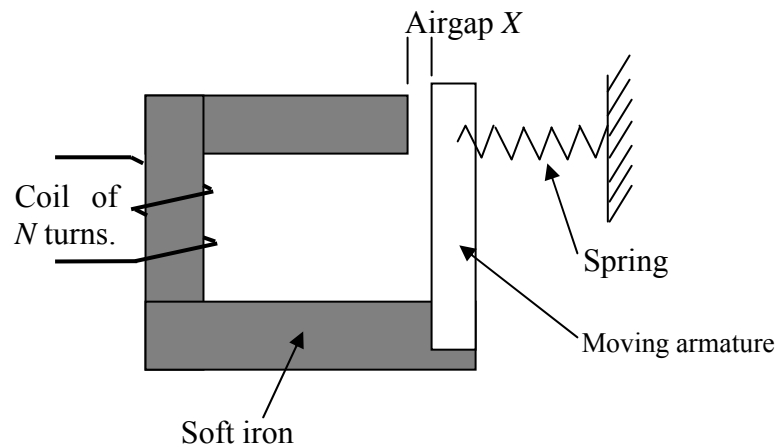

Figure 1 – Simple relay
- b. For a particular simple relay shown as figure 1, $N = 1200$ turns, The cross sectional area $A = 100\text{mm}^2$, and airgap length $X = 5\text{mm}$ when the armature is in the open position, and $X = 2\text{mm}$ when the armature is in the closed position.